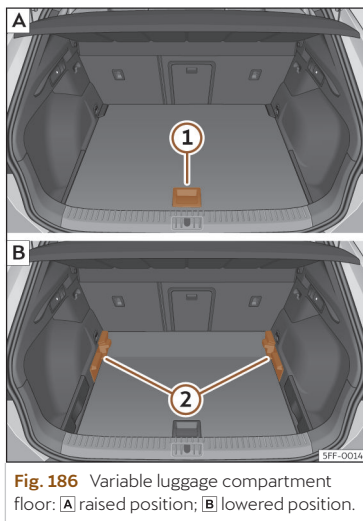

Fig. 186 Variable luggage compartment floor: **A** raised position; **B** lowered position.
- To move from the low position to the high position, lift the floor using the handle >>> **Fig. 186** ①, and pull it back until the front of the floor has fully passed the supports ②.
- Move the floor forward over the supports as far as the rear seat backrest and then lower the floor with the handle ①.
- To move from the high position to the low position, lift the floor using the handle >>> **Fig. 186** ①, and pull it back until the front of the floor has fully passed the supports ②.
- Now let the front part fall to the floor and slide the floor forwards as far as the rear seat backrest; lower the floor at the same time with the handle ①.
- Lift the variable floor in the high position using handle >>> Fig. 186 ①, pull it up and push it towards the backrest of the rear seats until it folds along the hinge line and the movable part of the floor is resting on itself.